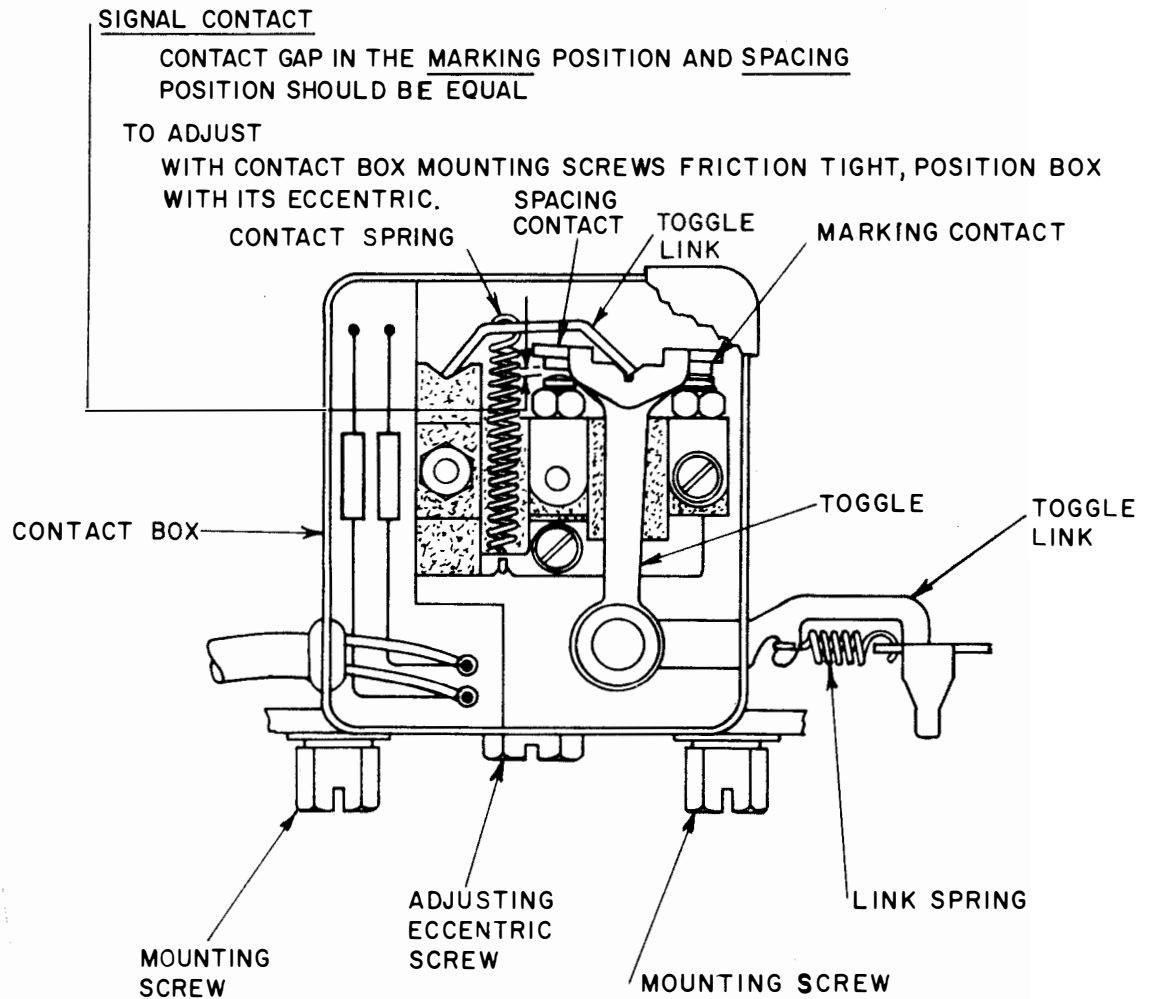

Figure 5.3 Contact Point Adjustment
1. Remove the contact box cover. See Figure 5.3.